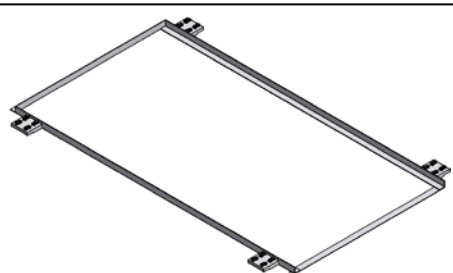

Figure 6a
- 1b. A Drill Fixture (**FIG 6a, page 3**) is used to pre-drill the mounting holes for the end brackets and maintain even spacing between the upper and lower gear rack arms. Even spacing between the gear rack arms and the location of the end brackets is critical for proper operation of the slide out. Drill Fixtures are reusable from system to system. Drill Fixtures are not supplied with system and must be purchased from Power Gear to aid in assembly and reduce installation time.